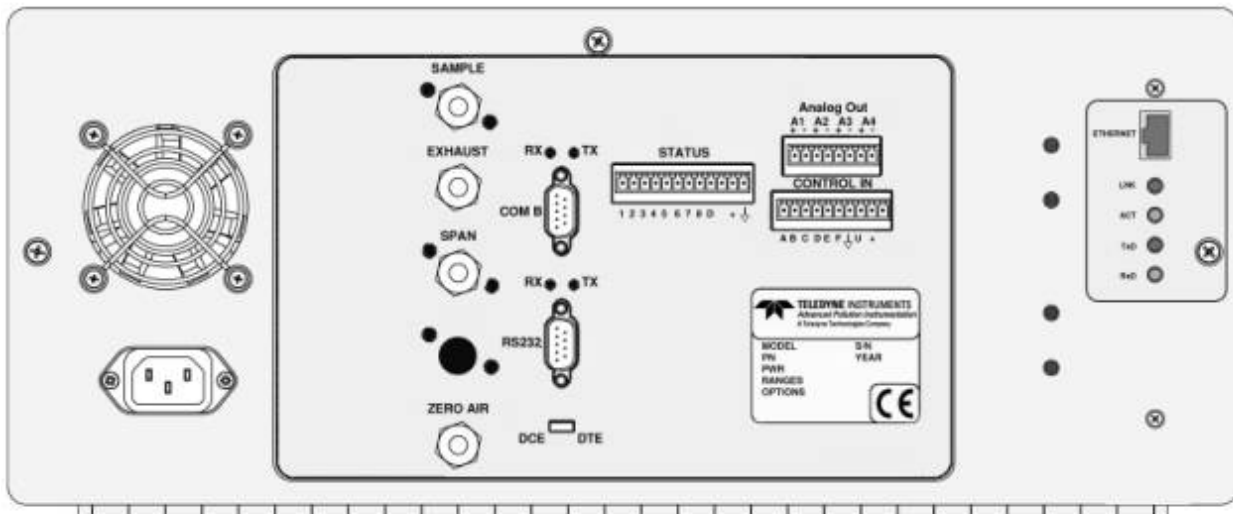
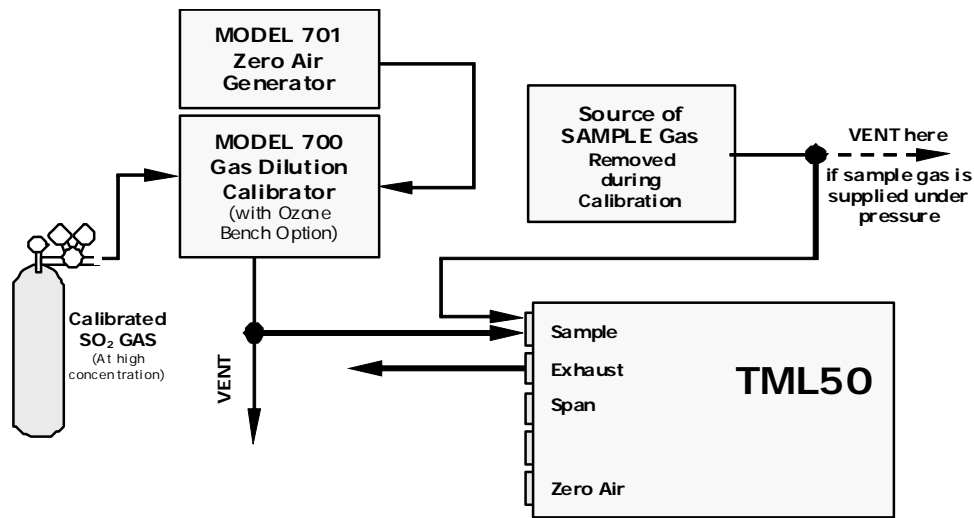
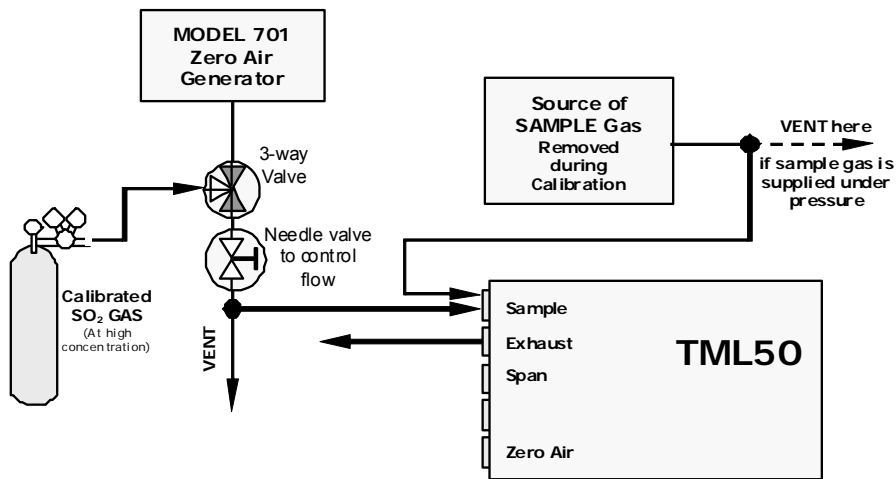
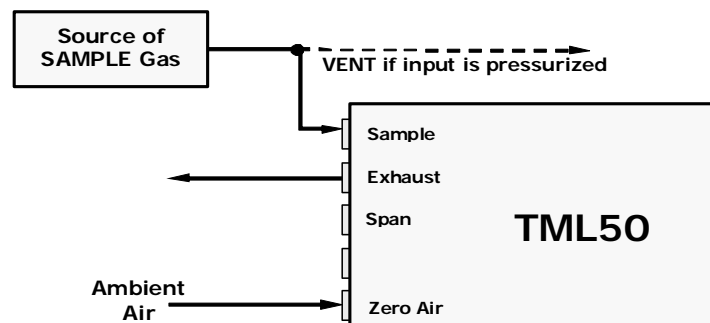

Figure 3-1: Rear Panel Layout
Figure 3-6: Pneumatic Connections—Basic Configuration—Using Gas Dilution Calibrator
Figure 3-7: Pneumatic Connections—Basic Configuration—Using Bottled Span Gas
Figure 3-8: Basic Pneumatic Connections for Units with Valve Options
<p>CAUTION</p> <p>Check the voltage and frequency label on the rear panel of the instrument (See Figure 3-1) for compatibility with the local power before plugging the TML50 into line power.</p> <p>Do not plug in the power cord if the voltage or frequency is incorrect.</p>
Figure 3-6 and Figure 3-7 show the most common configurations for gas supply and exhaust lines to the TML50 Analyzer. Please refer to Figure 3-1 for the locations of pneumatic connections on the rear panel and Table 3-4 for nomenclature.
3. Attach zero air and span gas supply lines as appropriate (see Figure 3-6, Figure 3-6 and Figure 3-8). For this type of analyzer, zero air and span gas are defined in Section 3.1.2.1.